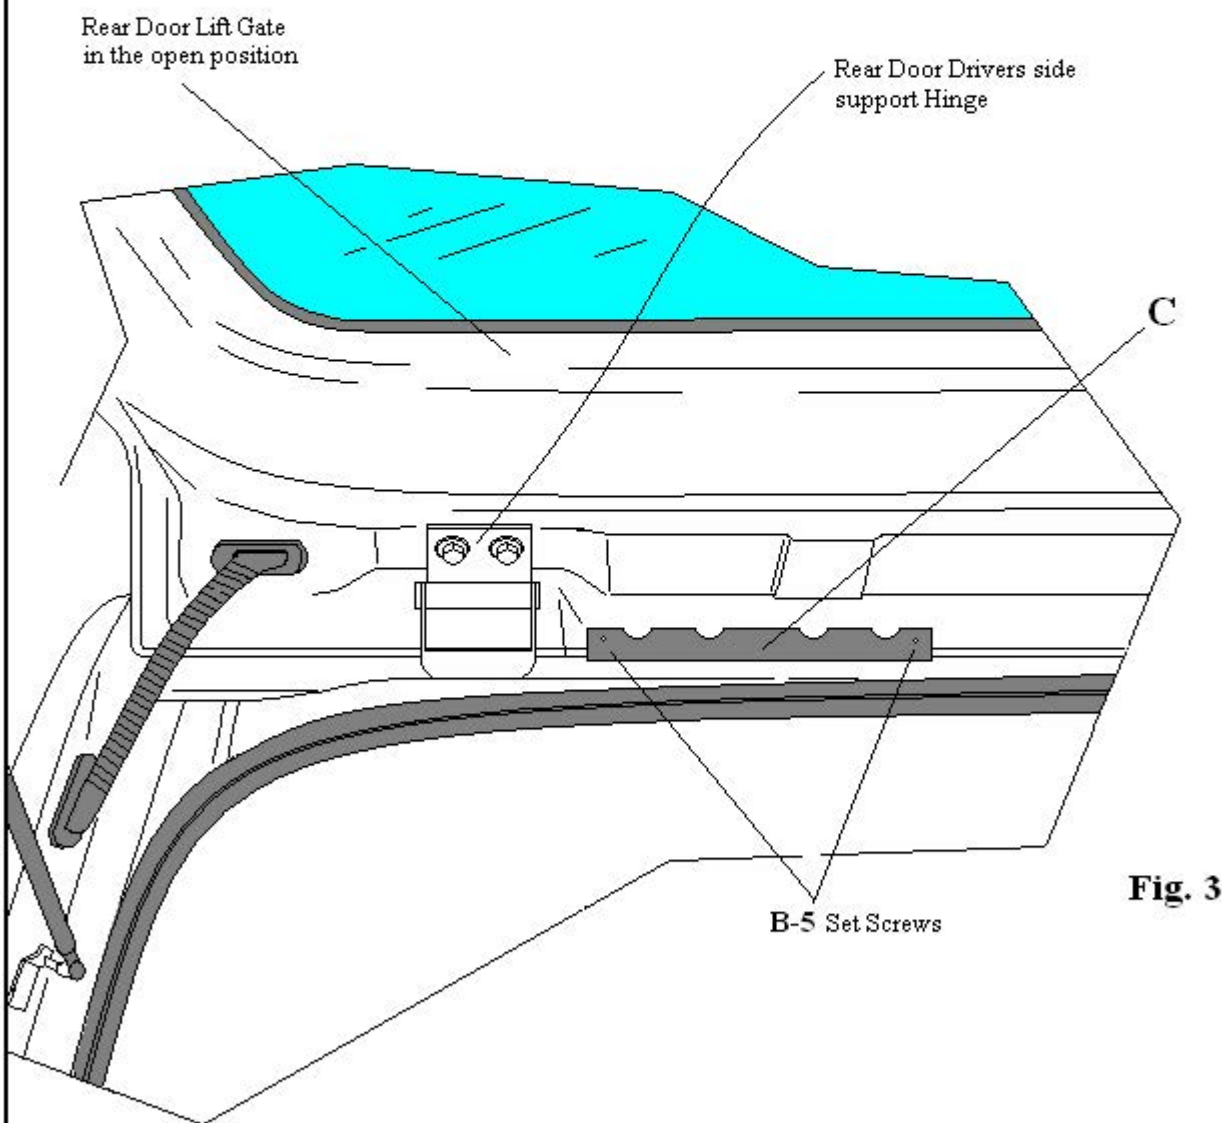

Fig. 3
- 6- Refer to page 6 Fig. 3 and open the rear door lift gate at this time install two 10-32 x 5/8" SS socket head cap screws "B-5" with a 5/32" Allen wrench located in Bag #1 of your hardware kit into the threaded holes located at the bottom of the ladder hanger plate "C". Completely thread in the screws until the screw head fully contacts ladder hanger plate "C". Close the rear door lift gate at this time.